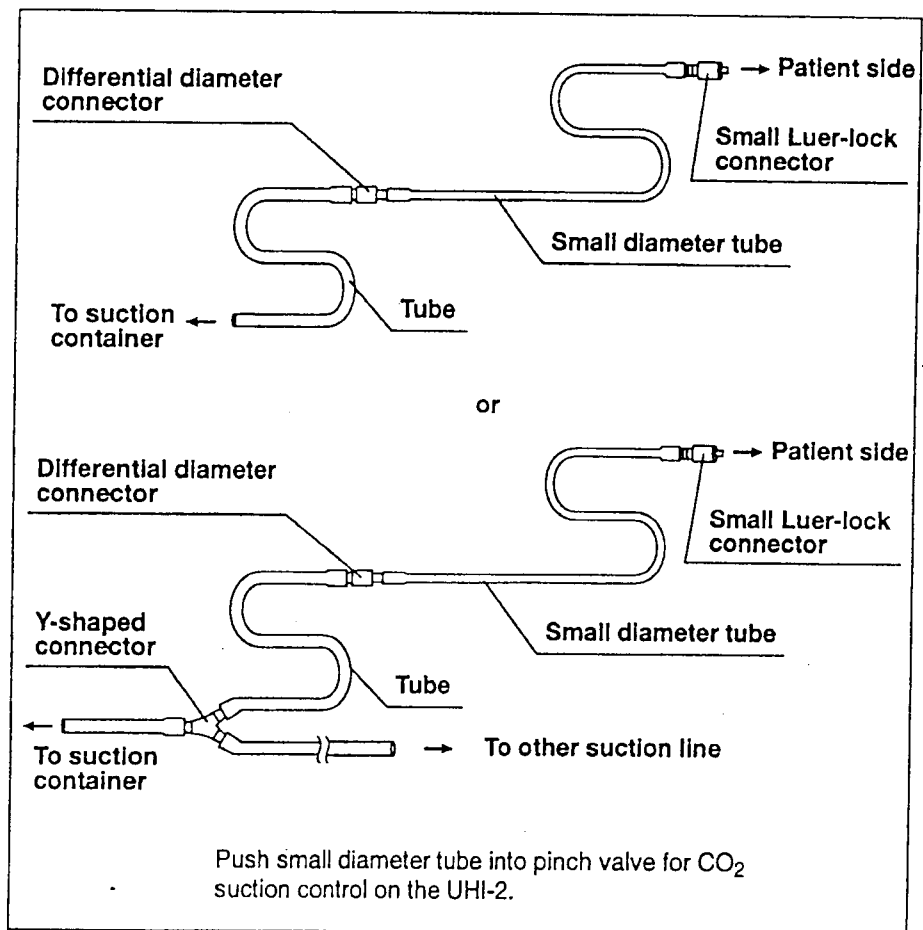

Figure 3.12
1. Place a sterilized differential diameter connector over the end of the sterilized small diameter tube (transparent). Connect the end of the sterilized Suction Tube with the green line to the other end of the differential diameter connector. (See Figure 3.12)
2. Attach the sterilized Small Luer-lock Connector to the patient side of the Suction Tube. (See Figure 3.12)
3. If required, use the Y-shaped connector/extension tube to branch the suction. (See Figure 3.12)